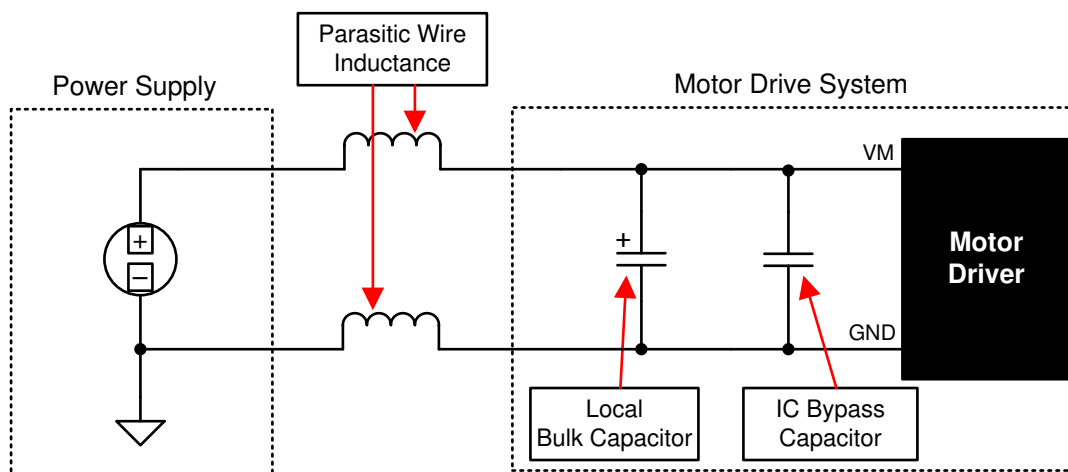

Figure 9-1. Example Setup of Motor Drive System With External Power Supply
9.2 Layout Example**Figure 9-1. Layout Recommendation****9.3 Thermal Considerations**